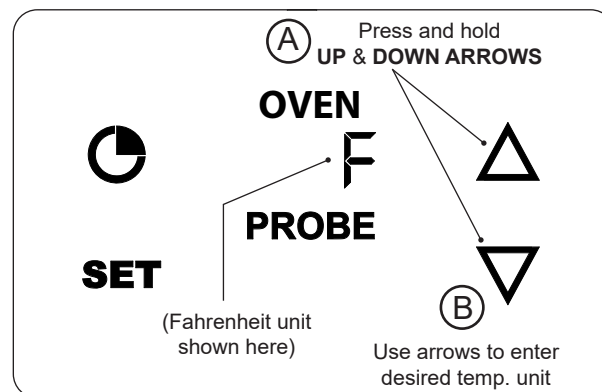

Fig. 36-3 Change temp. unit
1. Press and hold the **UP** and **DOWN** arrows until °F or °C is displayed (Fig. 36-3, A).
2. Press the **UP** or **DOWN** arrow to select the desired temp unit (Fig. 36-3, B).